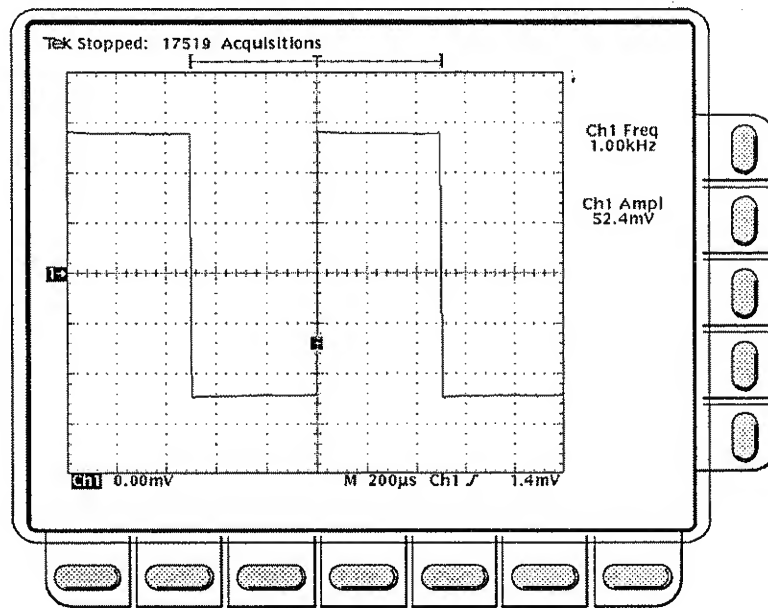

Figure A-23: Measurement of Probe Compensator Limits
- Press **CLEAR MENU** to remove the menus from the display. See Figure A-23.